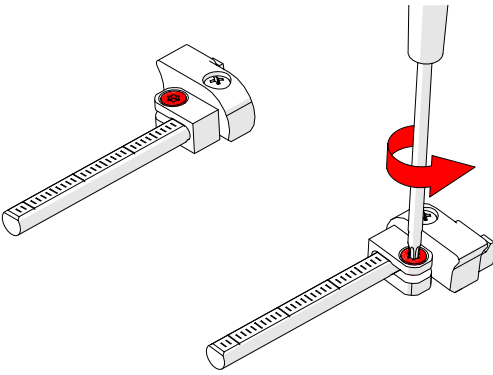

Fig. 83 - Loosen the wedge separation indicator clamp screw
5. Use the Torx® driver to loosen the wedge separation indicator clamp screw (Fig. 83).